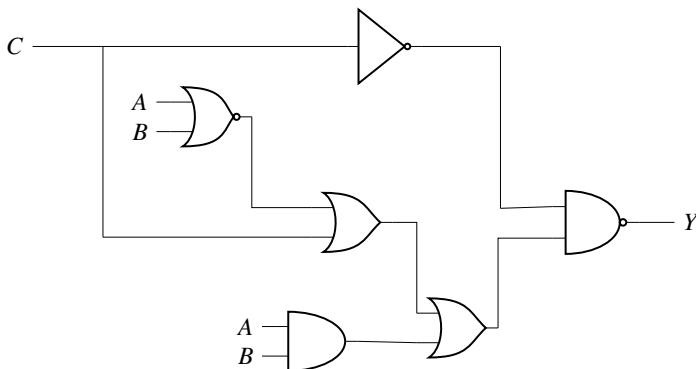

Fig. 3.36
53. In the circuit shown in Fig. 3.36, if $C = 0$, the expression for Y is